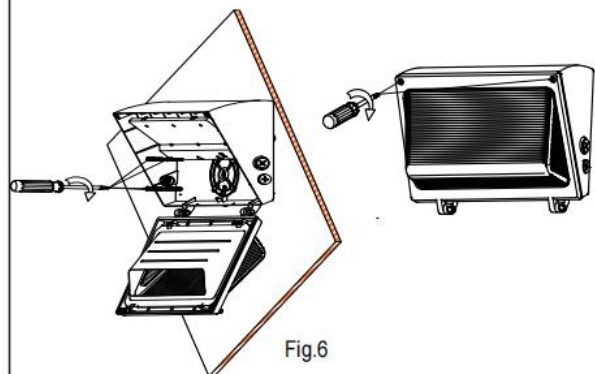

Fig.6
6. Mount the fixture on the wall by securing mounting screws through the drilled holes. Close the cover part by the screw.(Fig.6)